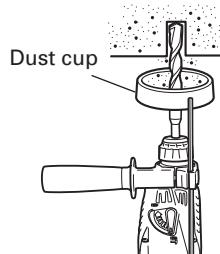
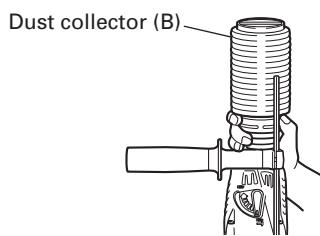

Fig. 4
Fig. 5
7. Installation of dust cup or dust collector (B) (Optional accessories) (Fig. 4, Fig. 5)
Use the dust cup by attaching to the drill bit as shown in Fig. 4.
- **Installing dust collector (B)**
When using dust collector (B), insert dust collector (B) from the tip of the bit by aligning it to the groove on the grip (Fig. 5)